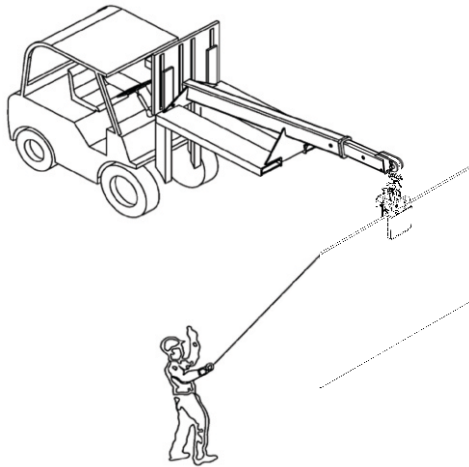

Figure 4.1
**Step 4:** Move the stone slab to the desired location (Figure 4.1).